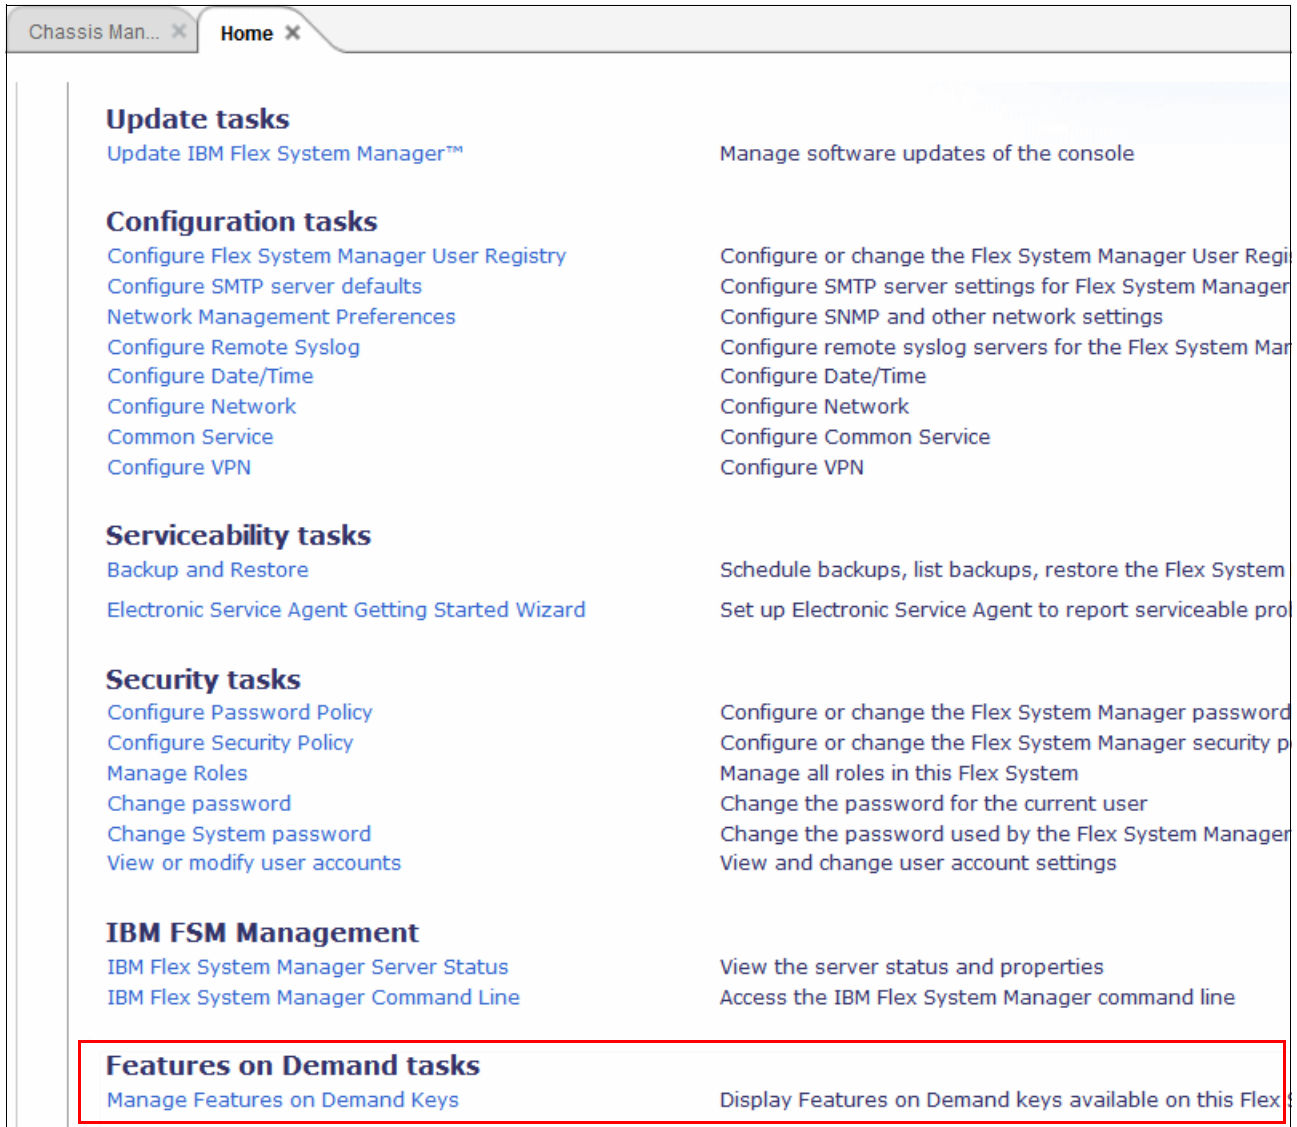

Figure 6-110 Features on Demand tasks
1. On the Home page, click the **Administration** tab and scroll to the bottom. Under Features on Demand tasks, click **Manage Features on Demand Keys** as shown in Figure 6-110.